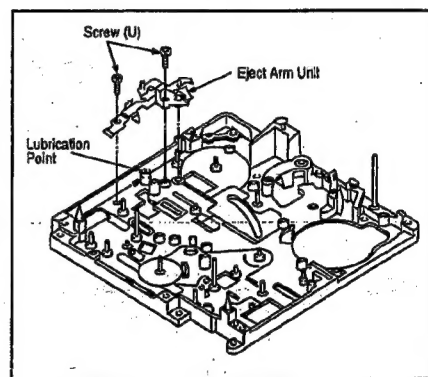

Fig. M29
- Fig. M29 Remove the Cut Washer (T) and Pad Arm Unit.
16. Eject Arm Fig. M29 Confirm the hooking portion of the Pad Arm Spring (k — k').